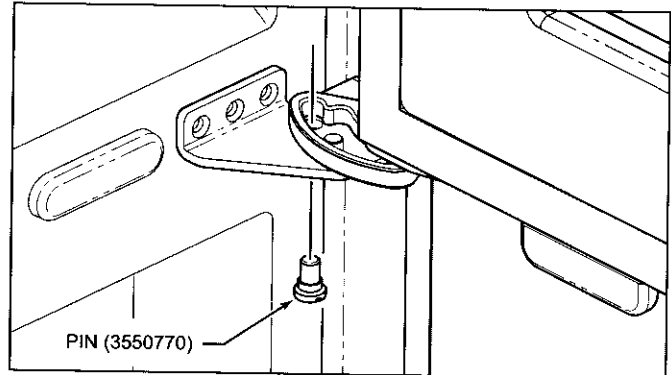

Figure 2-15. 90° Stop Pin (611G-3, 650G-3)
- b. Insert door stop pin up into threaded hole in lower cabinet hinge and tighten (See Figure 2-15).